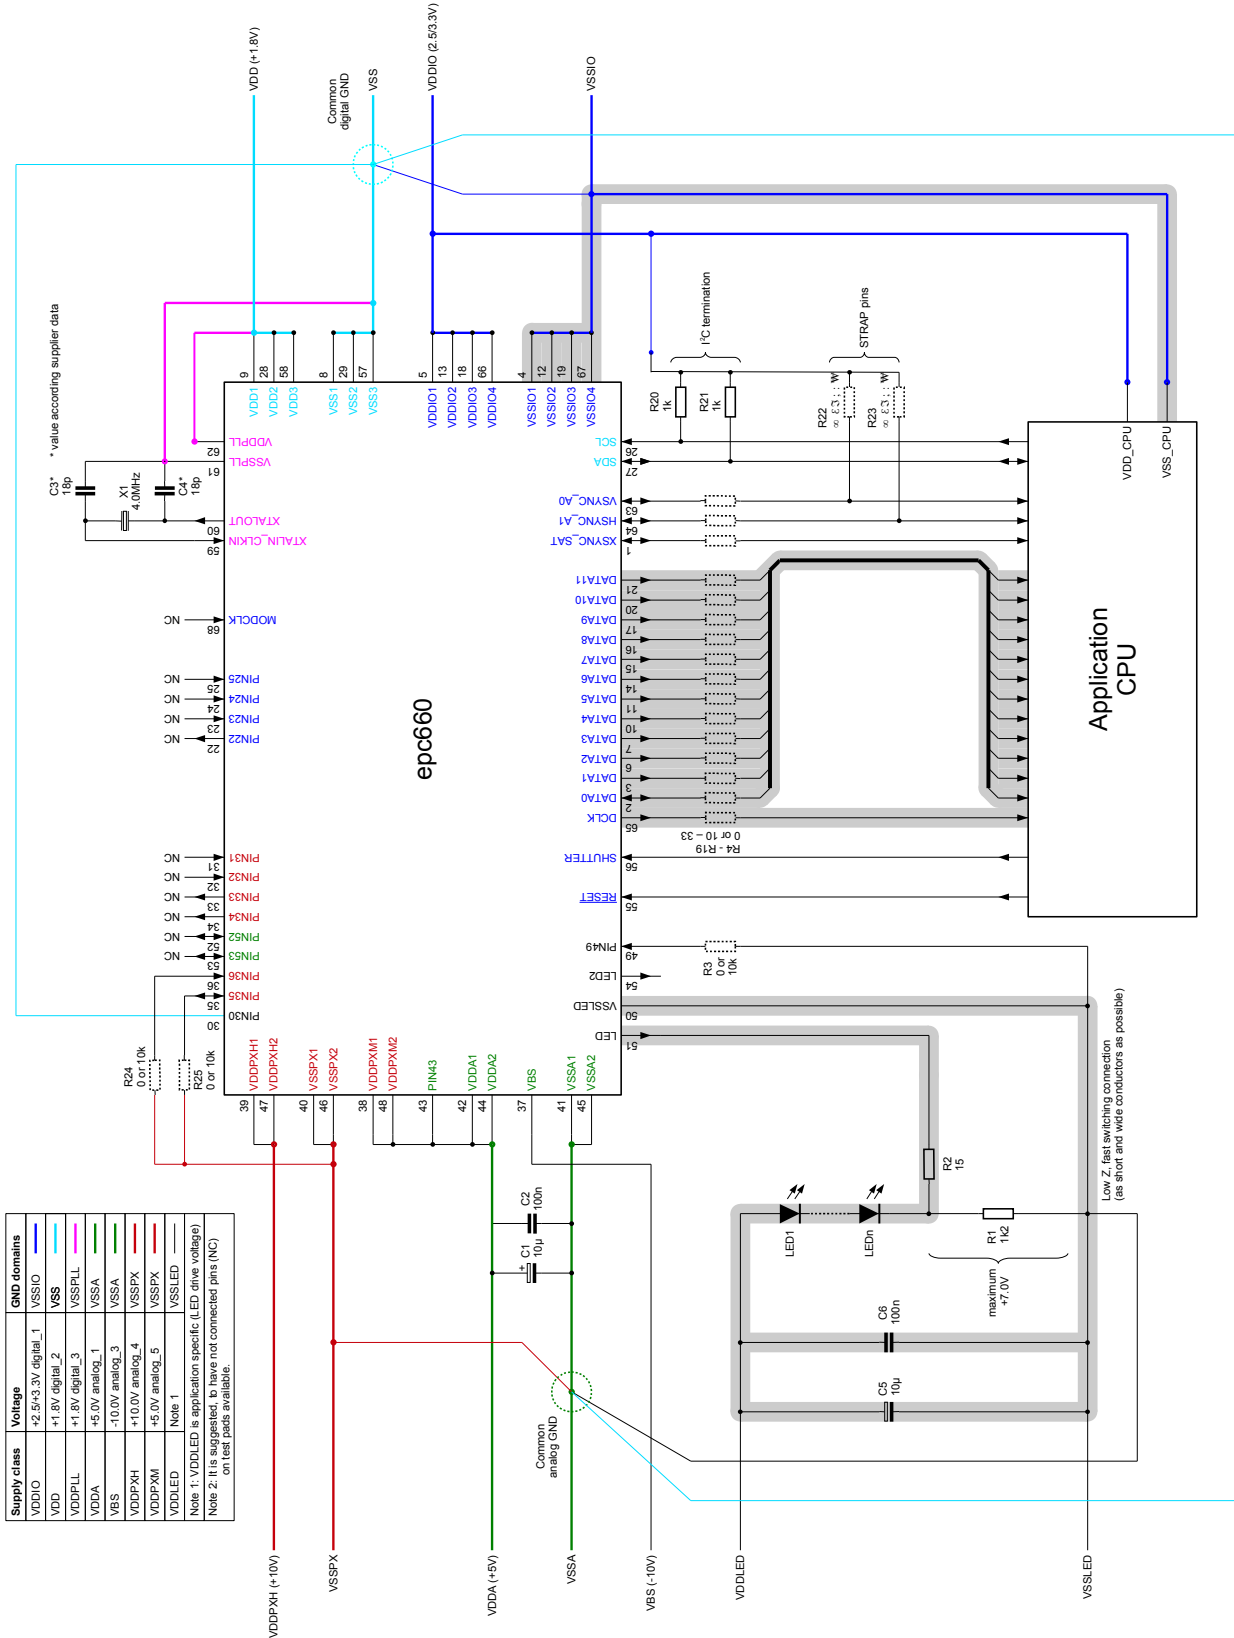
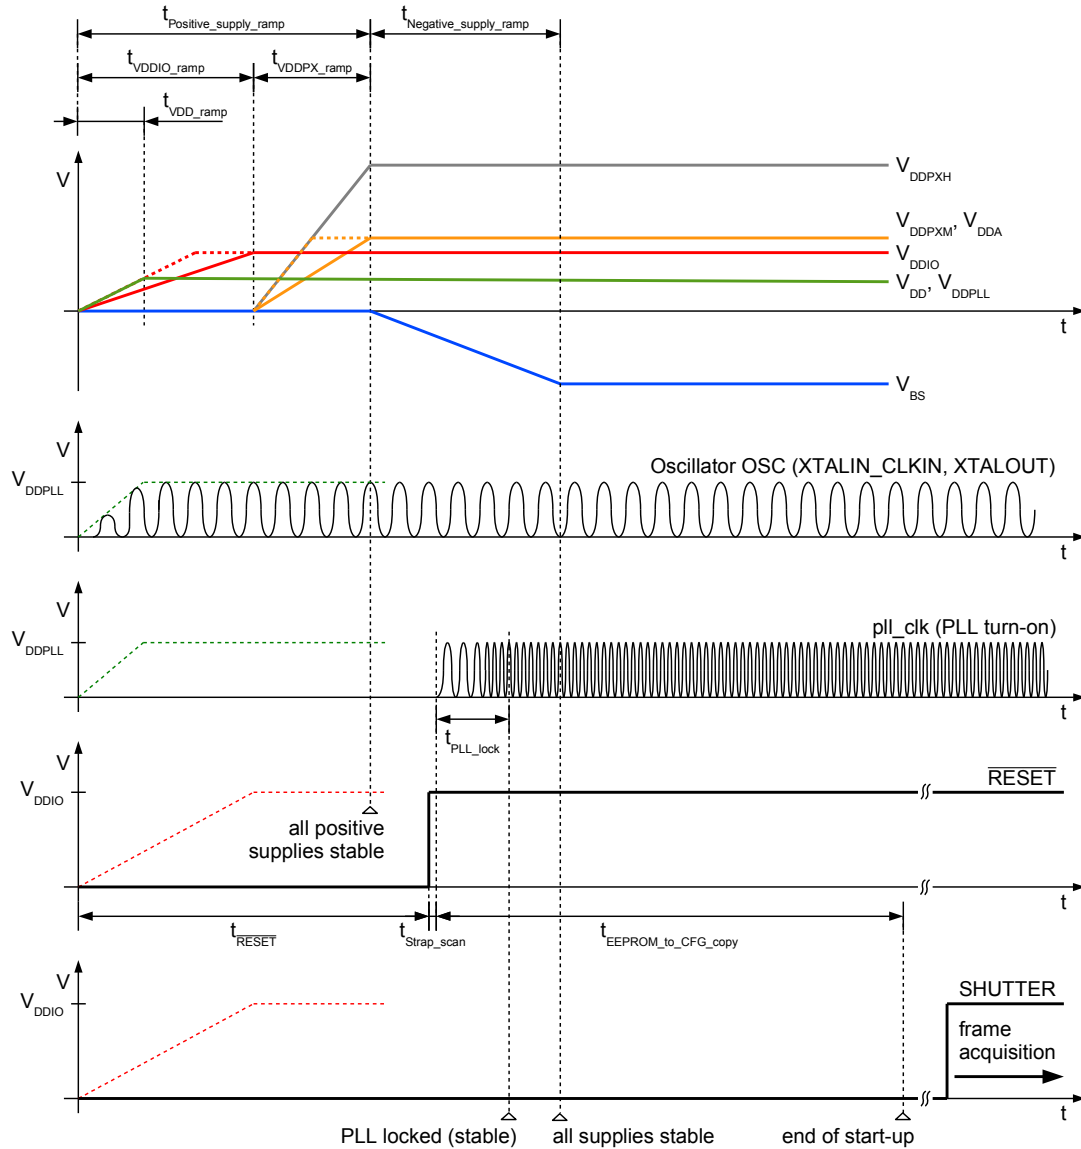

Figure 14: Typical application diagram
Figure 18: Power-up and reset sequence
Table 10: Values of component related to epc660 chip, see Figure 14
- epc660 is supplied with +1.8V, +2.5/3.3V, +5V, +10V and -10V. See Figure 14.
- +1.8V is used for supplying the digital logic (VDD), the on-chip oscillator OSC and the phase-look-loop PLL (VDDPLL). These supplies are marked in the application diagram as VDD and VDDPLL respectively (Figure 14). Their supply wiring must be separated from the digital wires and physically isolated from each other. The XTAL/OSC and PLL are critical parts of the chip which directly impacts the optical system performance (i.e. distance calculation). Thereof, the VDDPLL supply needs a well decoupling from VDD, because the digital logic creates some internal switching noise on VDD.
- +5V is used for supplying analog blocks of the chip e.g. pixel-field drivers and ADC readout circuitry. Refer to Figure 14.
16. Pins not listed here have to be connected according Figure 14.
During the power-up sequence, VDD and VDDPLL supplies (Figure 18) must be applied at the same time to the epc660. VDDIO can be applied either at the same time or after VDD and VDDPLL supplies become stable. In a system where VDDIO voltage is connected in parallel to application CPU IO supply pins (see Figure 14), VDD and VDDPLL can be generated by a linear regulator directly from VDDIO supply. In this case, all these three supplies ramp together.
The epc660 starts using either the internal 4MHz oscillator OSC with a crystal/resonator (Figure 14) or an external 4MHz clock, followed by an EEPROM copy sequence in parallel to the PLL turn-on phase. This is the factory default configuration. Several configuration registers are modified by copying the EEPROM content (Figure 60, i.e. overwrite reset values). The EEPROM copy step takes 340µs after the RESET is released.
The epc660 has output pins with dual/alternative functionality for PCB level flexible start-up configuration changing, called 'strap pins'. RESET release is followed by a strap pin scanning step. The chip programs its strap pins as inputs with internal pull-down resistors enabled for 4 osc_clk periods (refer to Table 1 and Table 3.). If there is no external pull-up resistor connected, the corresponding strap pin will be scanned as logic 0 due to the internal pull-down resistor. If there is an external pull-up resistor connected (Figure 14), it will override the internal pull-down and corresponding pin will be scanned as logic 1. After the strap scan period, pins are programmed back as outputs so that they can be used for their main function. Strap pins and their definitions are listed below (Table 11).